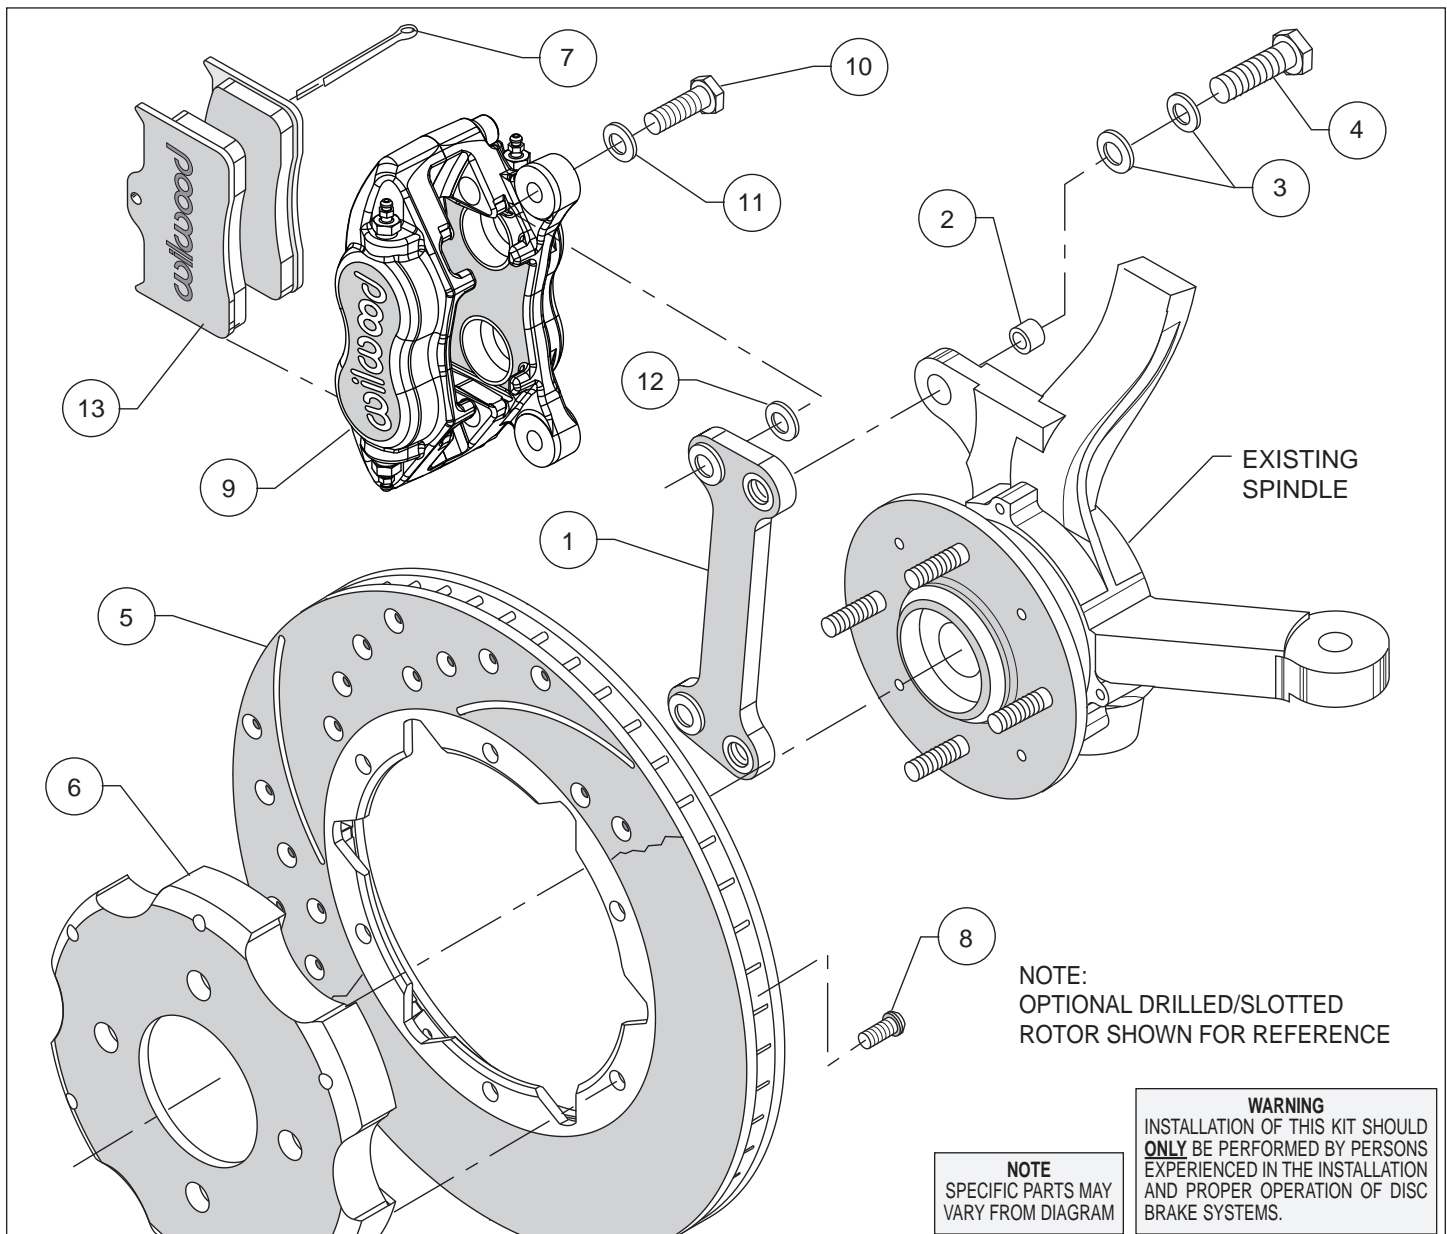
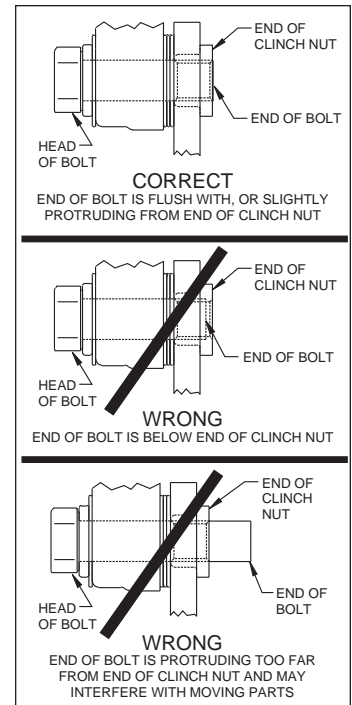

Figure 1. Typical Installation Configuration, Left Hand Application Shown
Figure 4. Clinch Nut Engagement Diagram
Assembly Instructions (numbers in parenthesis refer to the parts list and Figure 1 on the preceding pages): **CAUTION:** All mounting bolts must fully engage clinch nuts. Be sure to check that all bolts are either flush or protruding through flanged side of clinch nut after shimming, Figure 4.
- Insert one sleeve (2) into each hole of the spindle "ears", Figure 1. Orient the caliper mount bracket (1) as shown in Figure 1, and install using bolts (4) and two washers (3). Ensure that the flanged heads of the clinch nuts in the bracket are facing outboard, Figure 1. Temporarily tighten the mounting bolts. **NOTE:** The bracket must fit squarely against the mount bosses on the upright. Inspect for interference from casting irregularities, machining ridges, burrs, etc. Remove bolts one at a time, apply red *Loctite*[®] 271 to the threads and torque to 40 ft-lb.
- Orient the rotor (5) and the hat (6) as shown in Figure 1 and Photo 1. Attach rotor to hat using bolts (8). Using an alternating sequence, apply red *Loctite*[®] 271 to the threads, and torque to 25 ft-lbs.
- NOTE:** Please reference the caution statement at the beginning of the assembly instructions. Mount the caliper (9) onto the caliper mounting bracket (1) using bolts (10) and washers (11), as shown in Figure 1. Initially place one .035" thick shim (12) on each bolt between the caliper and the bracket, Photo 2. Temporarily tighten the mounting bolts and view the rotor (5) through the top opening of the caliper. The rotor should be centered in the caliper, Photo 3. If not, adjust by adding or subtracting shims between the bracket and the caliper. Always use the same amount of shims on each of the two mounting bolts. **NOTE:** The end of each bolt must be flush with or slightly protruding from the head of the clinch nut, as shown in Figure 4. If necessary place spare shims between washer (11) and caliper mounting ear to achieve the proper clinch nut engagement. Once the caliper alignment and clinch nut engagement are correct, remove the bolts one at a time, apply red *Loctite*[®] 271 to bolt threads, and torque to 40 ft-lb.
- Install the disc brake pads (13) into the caliper, with the friction material facing the rotor (5), Photo 4. Secure pads in place using cotter pin (7), Photo 5.